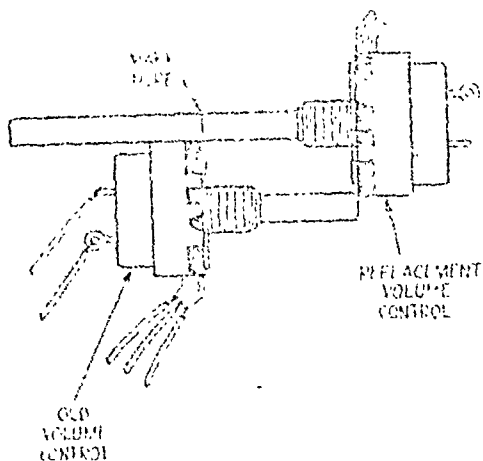

FIG. 13-11. Measuring the replacement volume control for length.
- a. Measure it against the original as shown in Fig. 13-11 and mark the proper length.